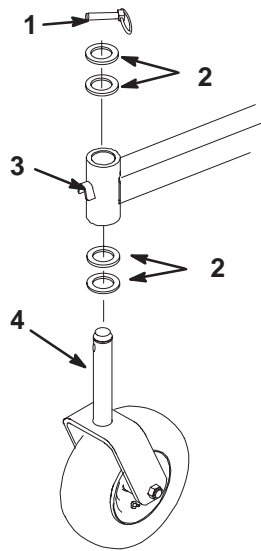

Figure 60
2. Remove the locking pin and spacer(s) from the top of the castor wheel fork (Fig. 60).
6. Inspect the castor wheel fork for wear and replace if necessary (Fig. 60).
7. Slide the castor wheel fork through the bushings in the mounting tube. Replace the spacer(s) onto the fork and secure with the retaining ring (Fig 60).